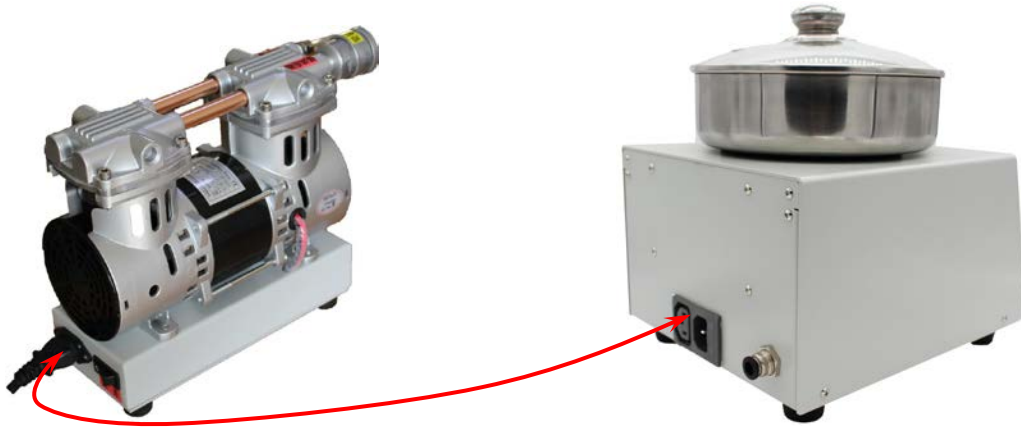

Fig.2 KW-4A power cord connection diagram
- 1、 Power Cord: plug one end of the power cord into the outlet on the pump, and the other end into the external power outlet (220VAC, 50Hz/110VAC, 60Hz). The power cord connection of KW-4A and pump is different, as shown in fig.2.